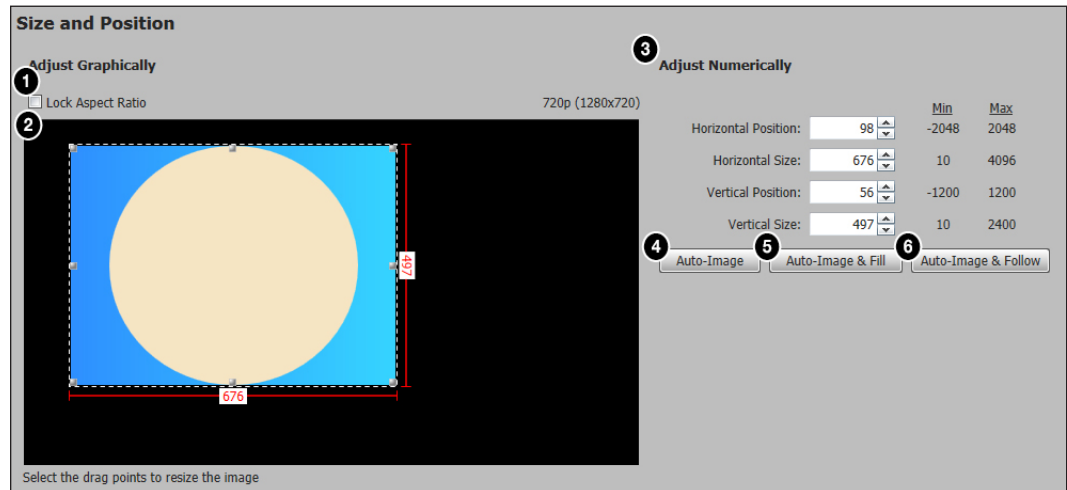

Figure 51. Size and Position Page
If desired, click the **Lock Aspect Ratio** check box (see figure 51, ①) to constrain the proportions of the output image. With this selected, the horizontal or vertical dimension of the output will change relative to the change of the other dimension.
1. Click and drag the drag points of the sample image (②) to resize the image within the designated space (defined by the black area in figure 51).
2. Click anywhere inside the sample image (see the blue rectangle with a circle inside in figure 51) and drag it anywhere within the designated space to reposition the image.